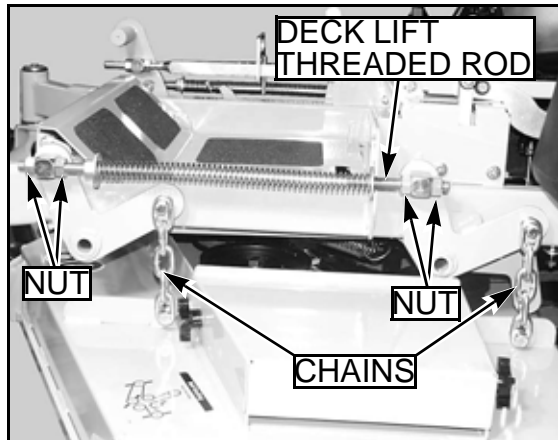
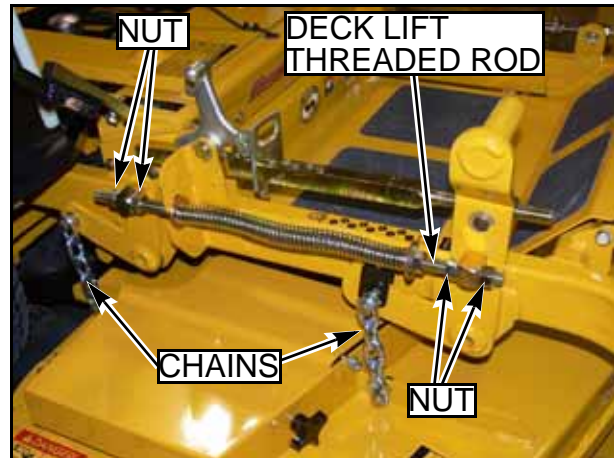
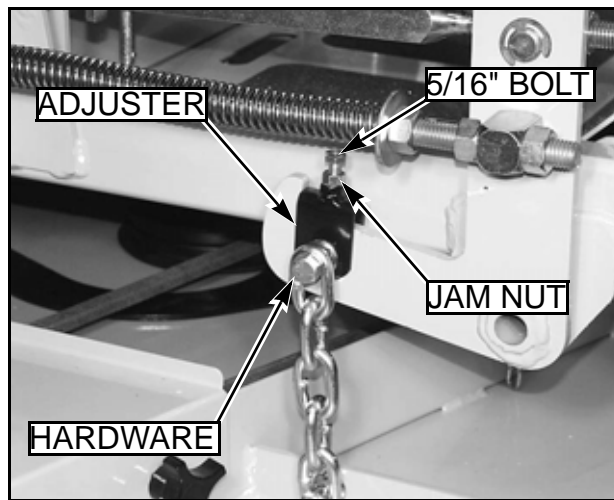

FIG. 35
FIG. 36
FIG. 37
6. Loosen all nuts on the deck lift threaded rods, and the hardware on the adjuster (on the right front), until **all** the deck lift chains are loose, **and** the deck is sitting tightly on all four blocks "FIG. 35", "FIG. 36", "FIG. 37".
15. Loosen the 5/16" jam nut on the adjuster lift chain "FIG. 37", and back the adjuster bolt out to allow the adjuster to move up and down freely.
18. Tighten the adjuster bolt jam nut to prevent the adjuster bolt from moving "FIG. 37".
21. Make sure that there is still slack in the chain. If not, loosen the two nuts on the block holding the threaded rod until there is slack in the deck lift chain "FIG. 36".
25. Make sure that there is still slack in the chain. If not, loosen the two nuts on the block holding the threaded rod until there is slack in the deck lift chain "FIG. 35".